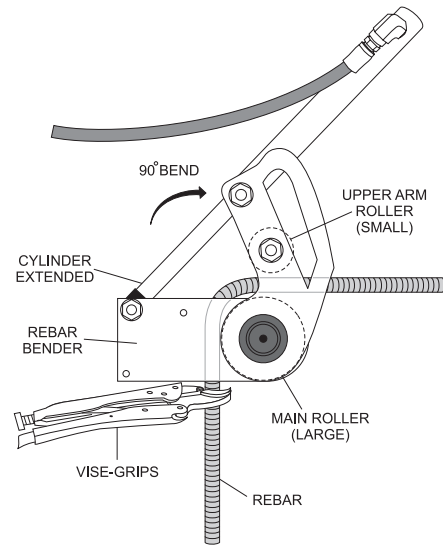

Figure 13. 90° Rebar Bend
6. When the desired rebar bend angle (Figure 13) has been achieved, release the toggle switch on the remote control unit. This will stop the forward motion of the cylinder.